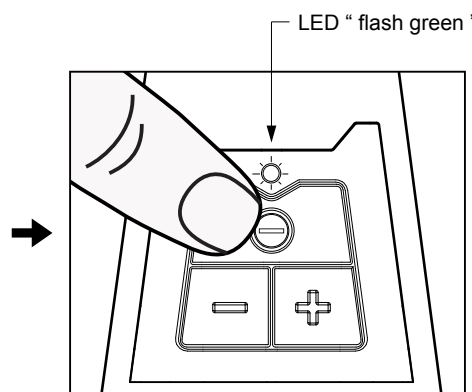

figure 2
2. Press the power on/off button "⊖" on the button plate to switch on the sander. The LED indicator shows "flash green" color after sander being switched on. - see figure 2.